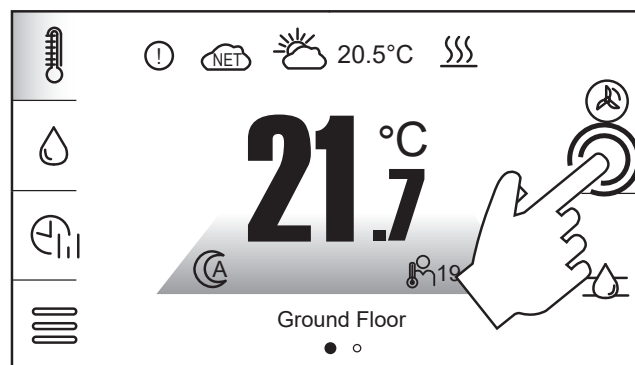

Figure 18-1: accessing HP
3. Tap the 'Heat pump schematic' from the touchscreen display. Refer to Figure 18-1.